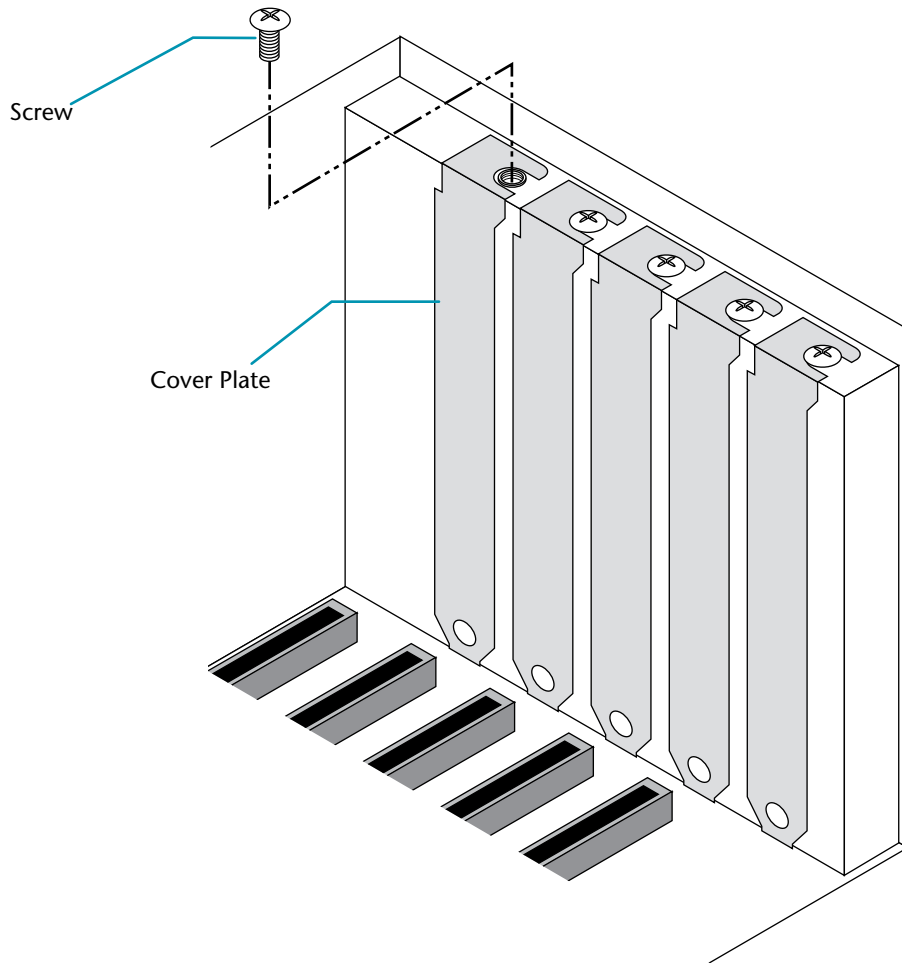

Figure 2-3. Removing the cover plate
5. Remove the screw from the metal plate covering the slot you have chosen (see figure 2-3). Save the screw; you will be using it again later in this procedure.